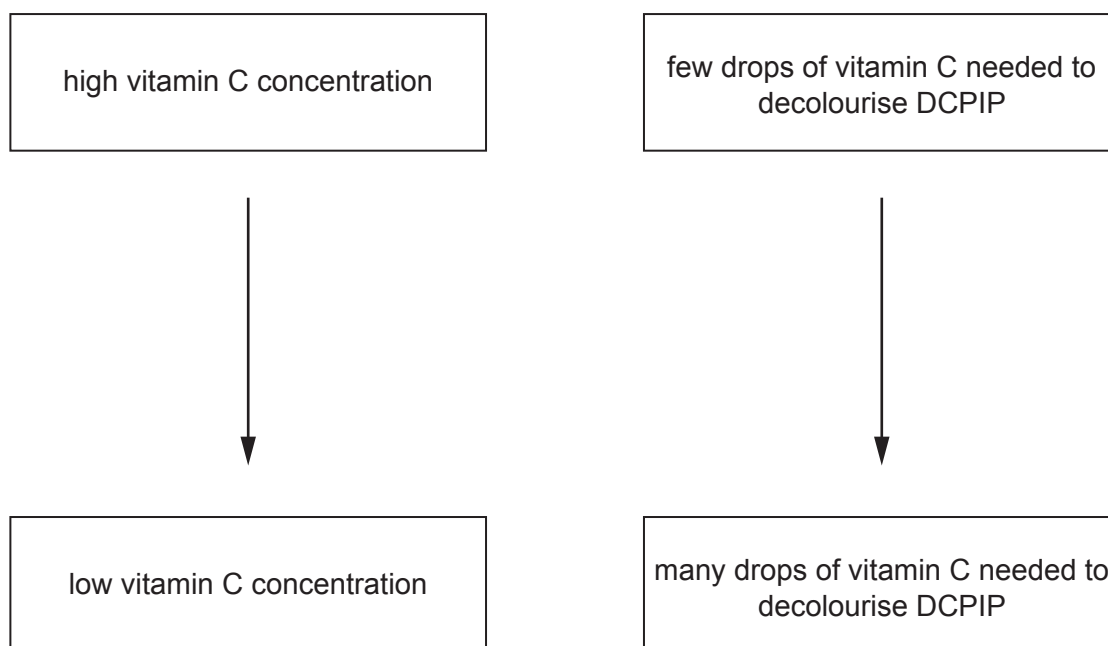

Fig. 2.1
- 2 You are going to compare the vitamin C concentration of orange juice with other fruit juices. DCPIP is a blue solution that decolourises (goes colourless) when vitamin C is added to it. DCPIP is used as an indicator for vitamin C concentration as shown in Fig. 2.1.
(c) Use your results table and Fig. 2.1 to place the juices in order of their vitamin C concentration.